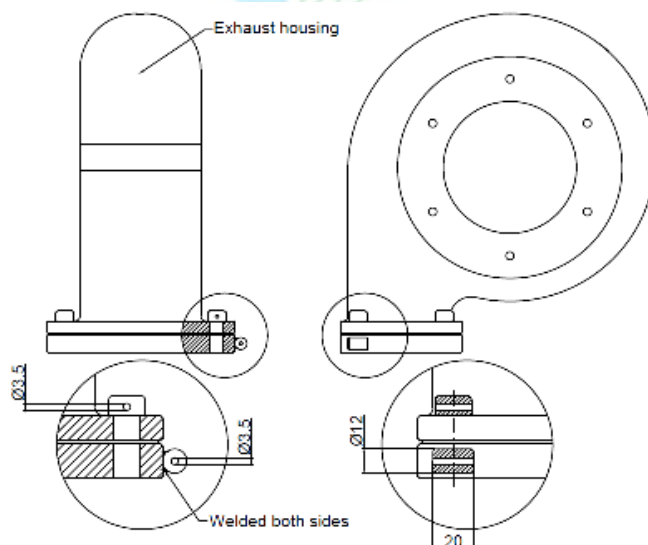

Figure 10 Turbo sealing
- a. Maximum one (1) nozzle for each turbo, only H₂O no additives.
4. Super Sport trucks are limited to one (1) pressure stage with max. two (2) turbo chargers.
- a. Charging with one (1) turbo: The maximum diameter of the inlet wheel is 127 mm (5 inch). Inlet housing 128,8 mm. The maximum diameter of the exhaust wheel of the turbocharger is 132,1 mm (5,2 inch). The max. diameter of the outlet side of the turbo housing is 134,1 mm.
- b. Charging with two (2) turbo's in one (1) pressure stage: Max measurement of a Holset HX 82 or turbine wheel equal to this. Max diameter of exhaust wheel is 112 mm, max bottom diameter of exhaust wheel is 129 mm. Max diameter of exhaust housing outlet is 114 mm.
- d. There must be a possibility (according Figure 10) to seal the turbo by a National official.
- Figure 10 Turbo sealing16